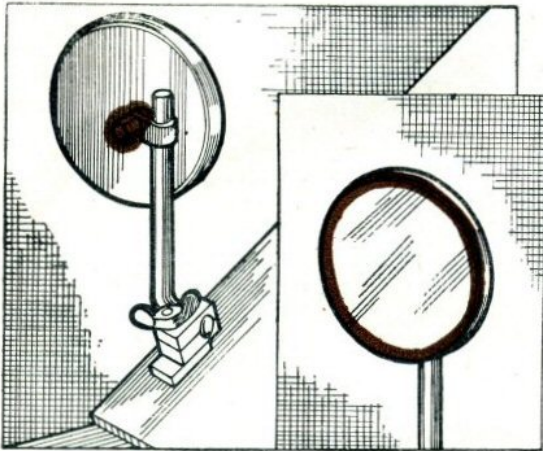

Fig. 30. Driving mirror.
- (a) Smear over all fixings and seams of the driving mirror. Fig. 30.